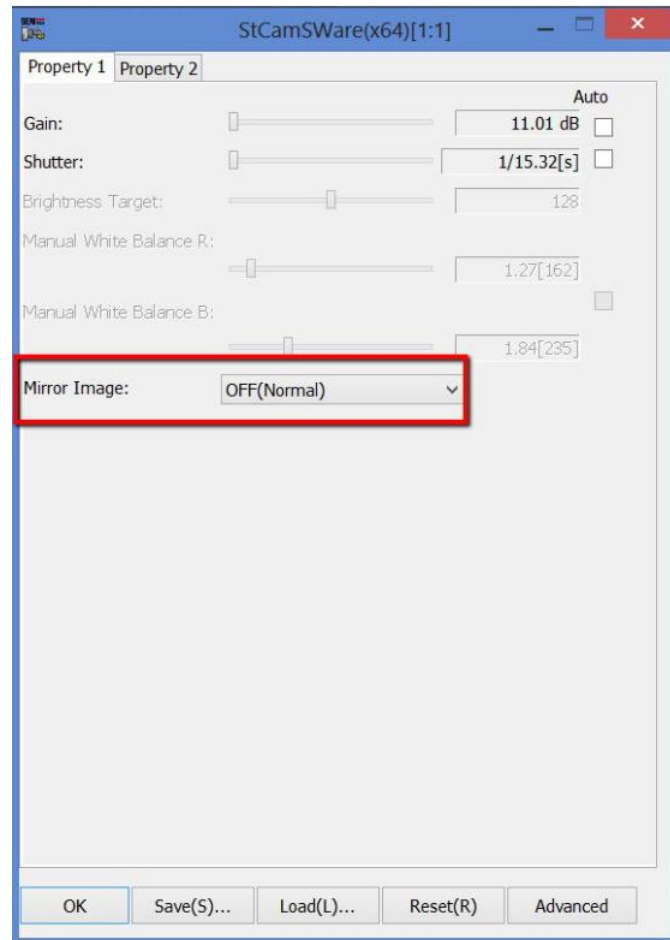

Figure 35 StCamsWare GUI
34. Select “OFF (Normal)” at Mirror Image Column as below Figure 35.